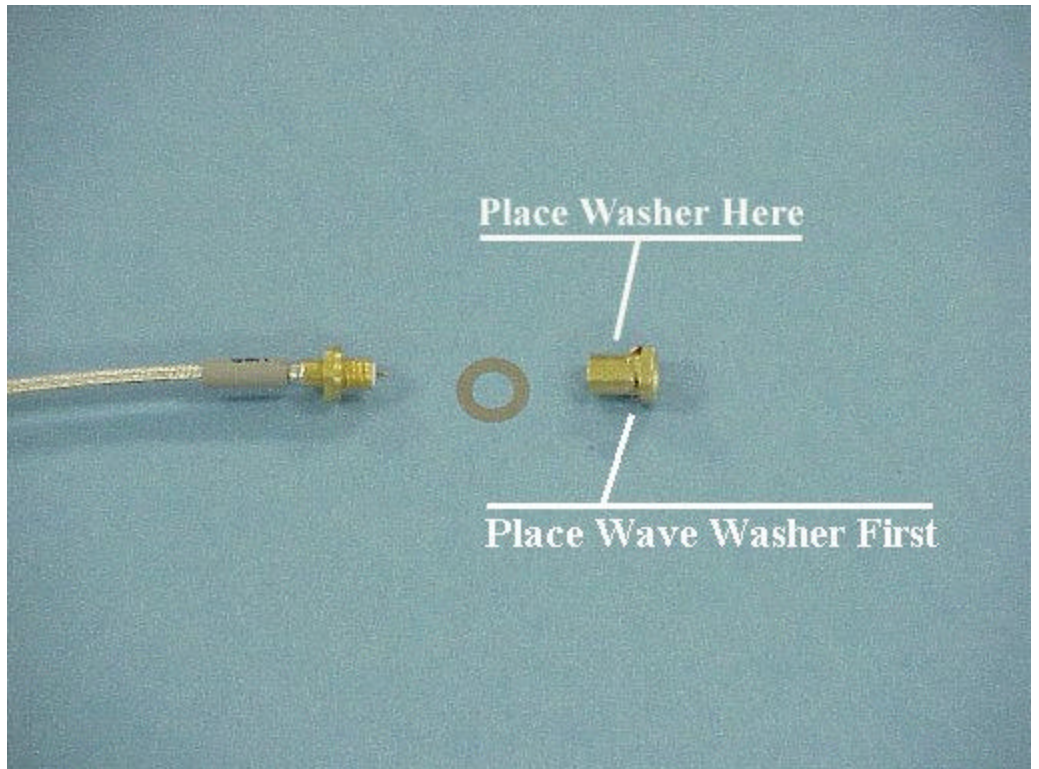
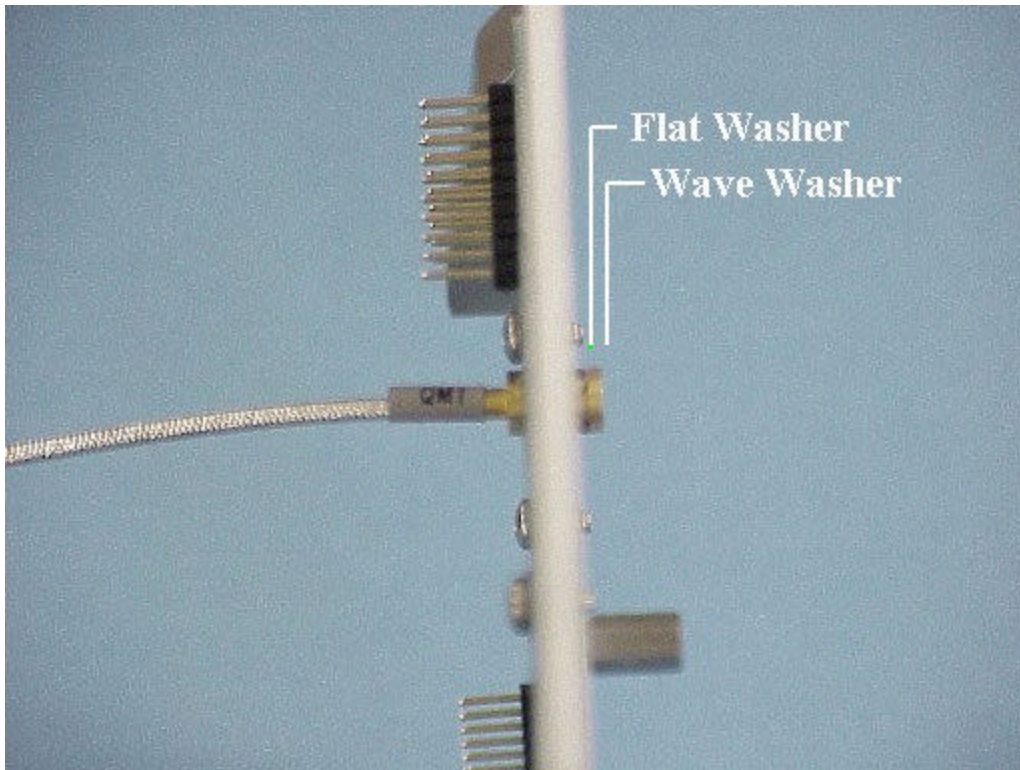

Figure 6
Figure 7
1. Choose the required **RF cables** for the application. For most applications this will be a **SSIS to MCX** (RiK0001A) coaxial cable. Specialty cable assemblies are available from ROOS but are not listed in the **Standard Fixture Kits List** shown above. On the bottom plate assembly, place the cabled end into the **RF** port assigned according to the fixture schematic. See **Figure 6** for washer orientation. Attach the other side of the connector by threading it back on from the opposite side of the fixture plate. Tighten the connection using two 7/32 open end wrenches. Be careful not to over torque the connection (**Figure 7**). Suggested torque is not to exceed 15 inch pounds.